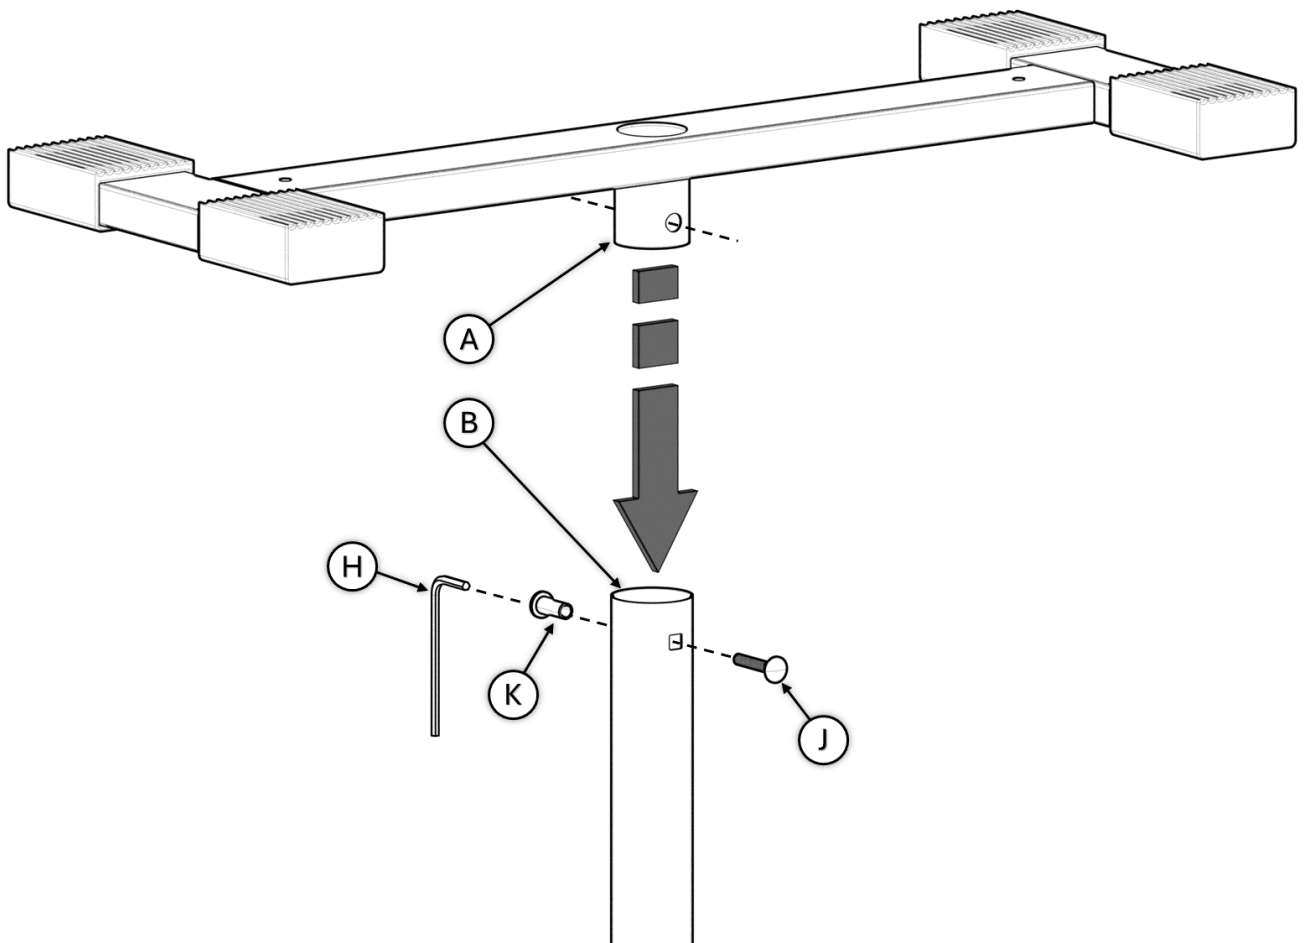

FIGURE 2
2. Insert **A** into **B**, align holes and insert **J** and **K** as shown in *FIGURE 2*. Secure with the tool provided (**H**.)